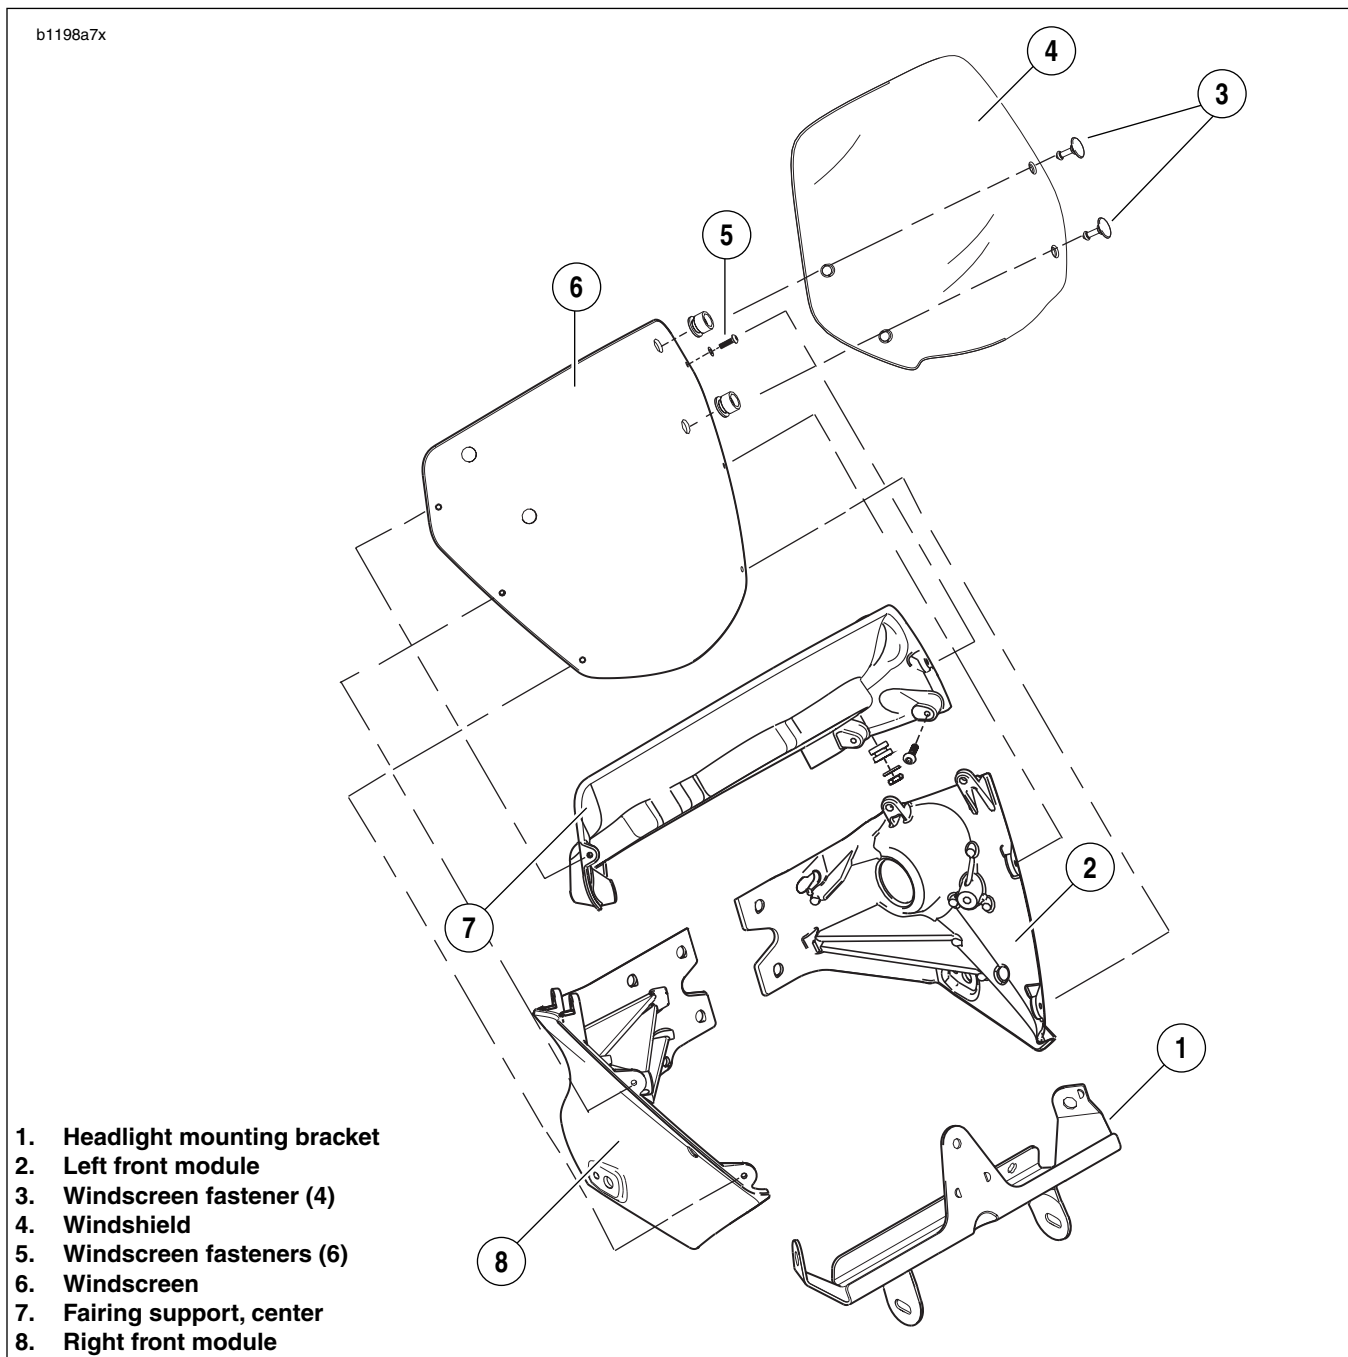

Figure 2-134. Flvscreen and Windscreen
- The windscreen fastens into the left and right front modules (2, 8) and the center fairing support (6).
1. See Figure 2-134. Remove windshield (4) by pulling loose from windscreen (6).
2. Remove six windscreen fasteners (5).
3. Remove windscreen (6).
1. See Figure 2-134. Position windscreen (6) onto left and right front modules (2, 8) and the center fairing support (6).
3. Install windshield (4) by pushing into place. Pull on windscreen when installed to verify attachment.